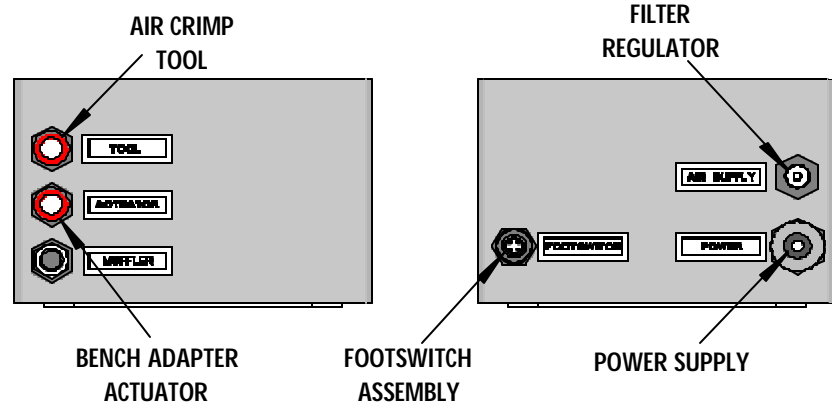

Figure 1
2. Replace with the components, fittings and tubing, (See Figures 1 and 3).
3. Make sure they are correctly connected in the right positions, which are clearly marked on the each side of the Cycle Box in Figure 1.